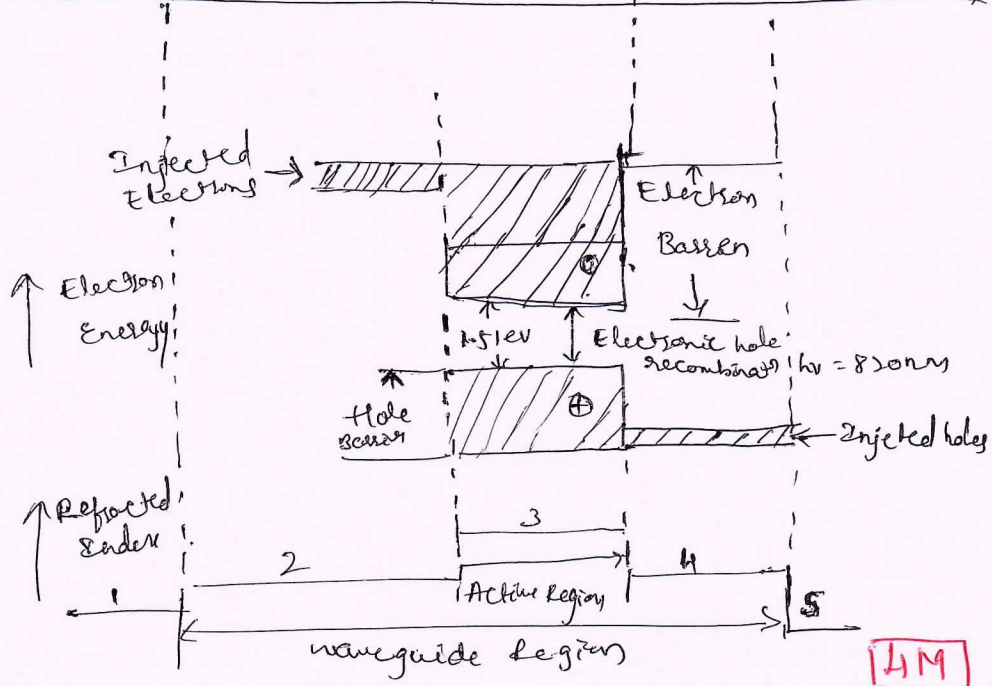

Fig 1:- Cross section of typical GaAlAs double-heterostructure LED.
- * Fig 1 shows the double heterojunction structure with two different alloy layers on each side of active region.